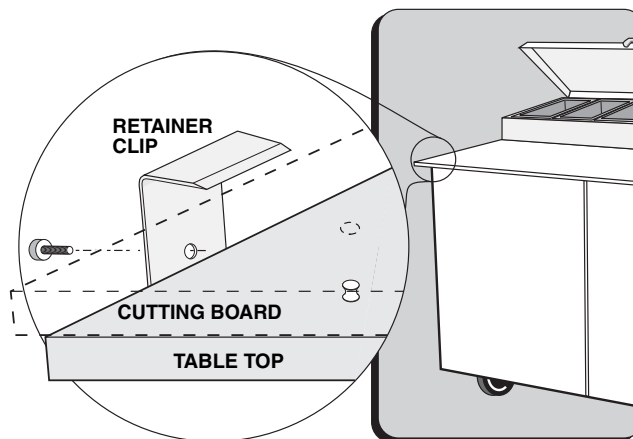

Figure 1.
- C.** Align cutting board with rivnuts and attach retainer clip to table top (figure 1).